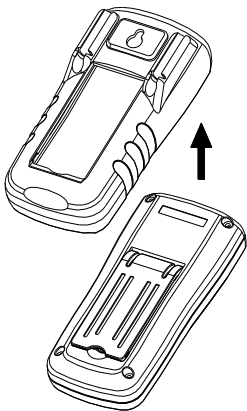
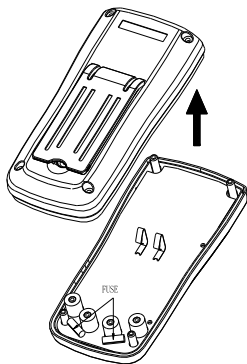

Figure 1
Figure 2
2. Take off the protective boot (Figure 1), remove the four screws by using a standard-blade screwdriver, and then remove the cover (Figure 2).